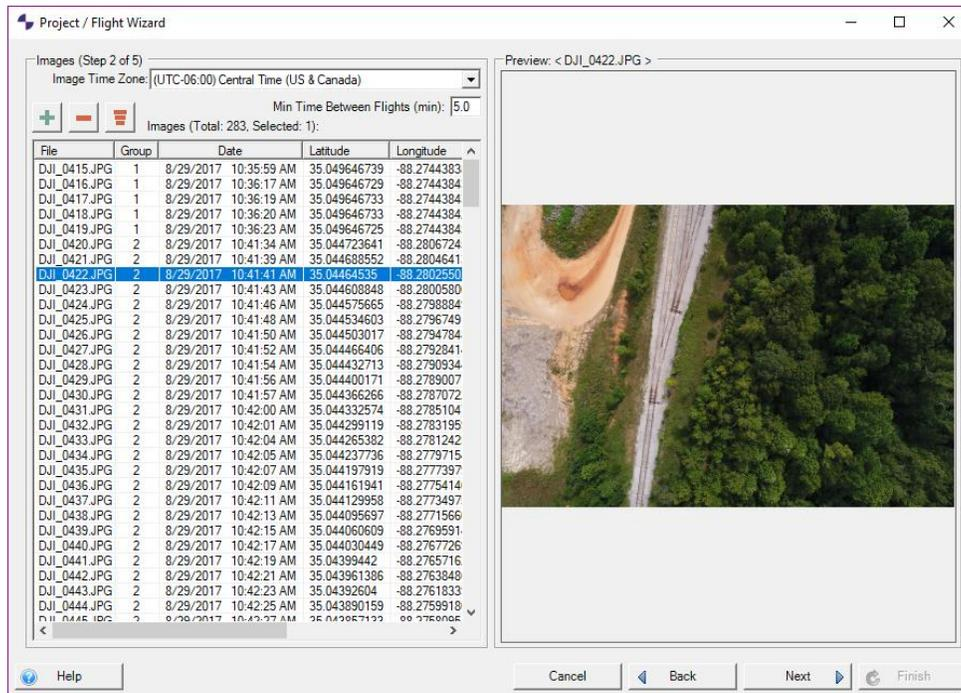

Figure 10 - Photo Preview
7. The photos should now be visible in the dialog. If a photo is selected, you can preview the photo in the *Preview* window (Figure 10).